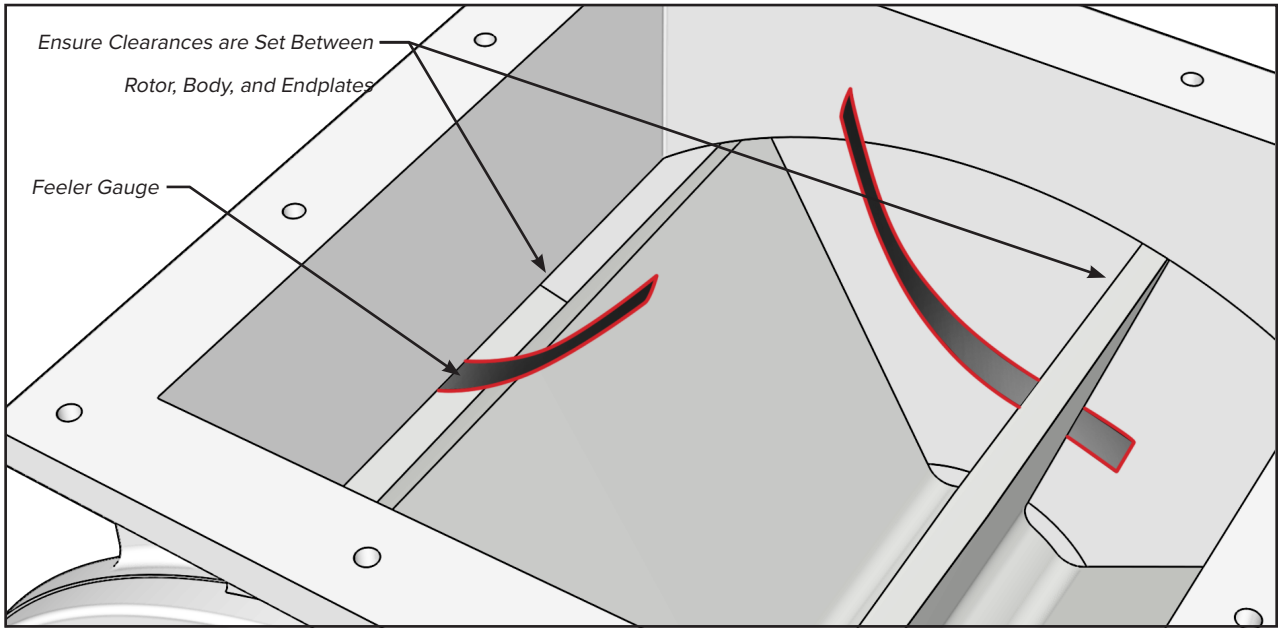

FIGURE 22
- 17. **Verify clearance using feeler gauges that ensure the rotor turns freely (Figure 22).**
2. Using a feeler gauge, check the clearance between the rotor and the end plates (figure 22). There should be minimum clearance of 0.003”. Refer to Appendix 10 for clearance information as these may vary depending on operating temperature and valve size.
17. Using a feeler gauge, check the clearance between the rotor and the airlock end plates (Figure 22).